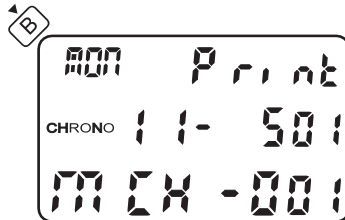

Fig. 21
- Pressing B at the PRINT ALL mode will go to the PRINT RACE mode with display as shown in Fig.21.